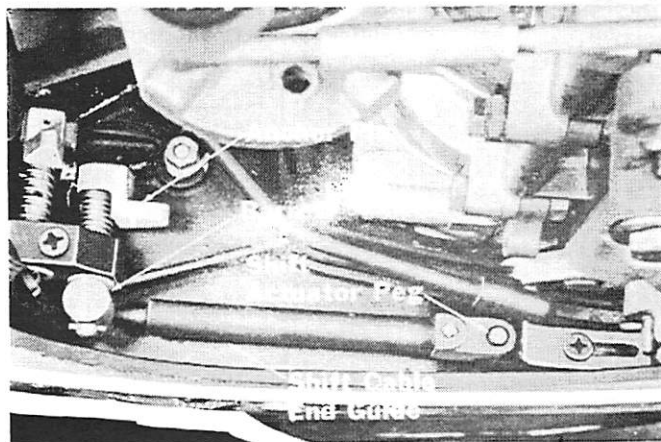

Figure 5. Installing Shift Cable
4. With motor in forward gear, position cable end guide over shift actuator peg without disturbing setting. (Figure 5)